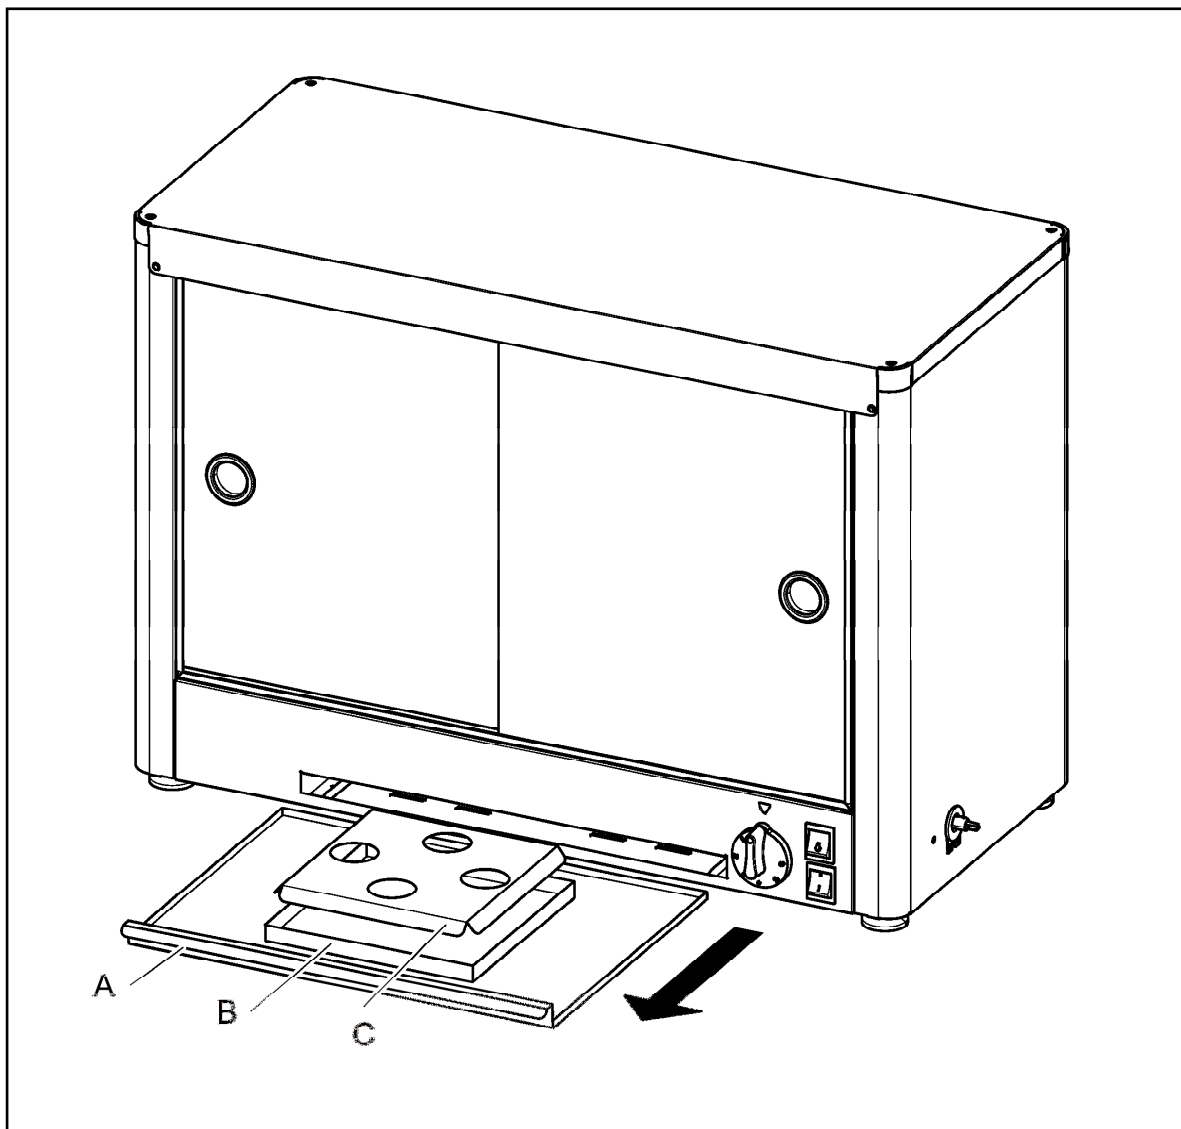

Fig 3
The integral water bath provides humidity to keep certain products such as pastry, moist. Slide out the crumb tray Fig 3 (A), remove the lid (C). For best results, fill the bath (B) with warm water. Check the level occasionally, taking care when removing as it may become hot. Avoid condensation on the glass by ensuring you do not overload the cabinet.